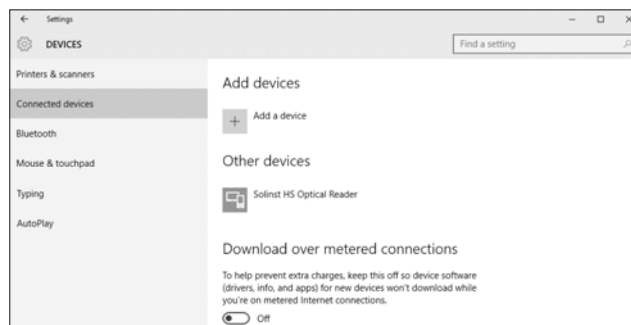

Figure 5-23 Installed Solinst USB Device
10. Once the installation is complete, this will be shown in the Devices > Connected devices Window. See Figure 5-23.